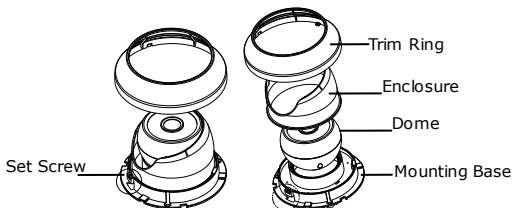

Figure 2-1 Disassemble the Dome
1. Disassemble the camera as shown in Figure 2-1.